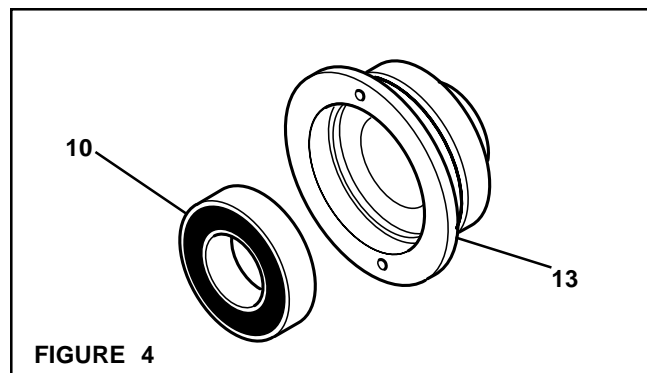

FIGURE 4
5. Press the Bearing (Item 10) out of the Piston (Item 13) (See Figures 4 and 5).